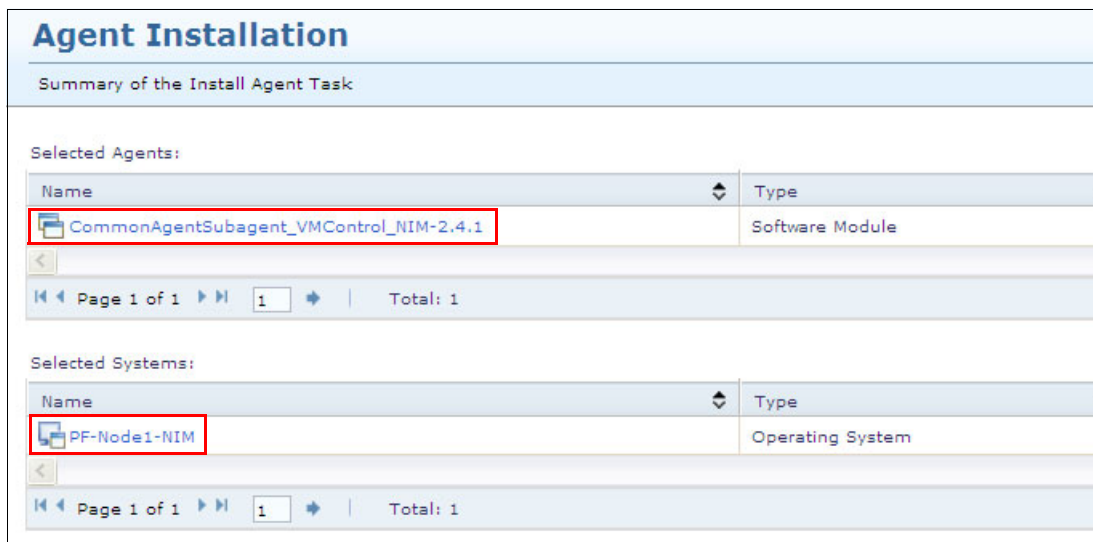

Figure 10-52 Agent Installation
6. Verify the information, then click **Finish** to install the agent for NIM, as shown in Figure 10-52.